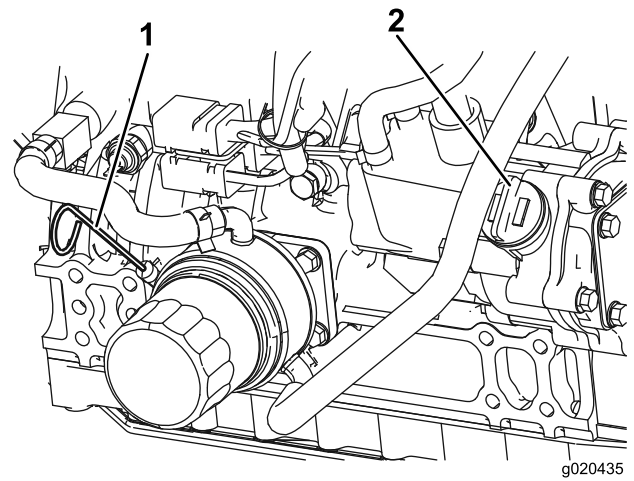

Figure 8
3. Remove the dipstick, wipe it clean, install the dipstick into the tube, and pull it out again. The oil level should be between the full and add marks (Figure 8).
4. If the oil level is low, remove the fill cap (Figure 8) and add oil until it is between the full and add marks. **Do not overfill.**